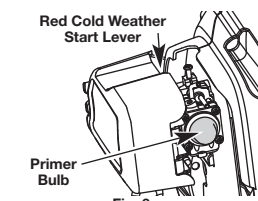
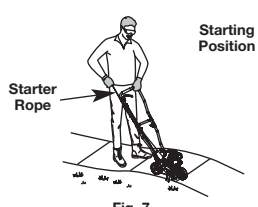

Fig. 6
Fig. 7
**WARNING:** Avoid accidental starting. Make sure to be in the starting position when pulling the starter rope (Fig. 7). To avoid serious injury, the operator and unit must be in a stable position while starting.
**IF COLD...** In cold weather conditions (below 40°F), push the red cold weather start lever (Fig. 6) down to the closed position and continue to step 3. **DO NOT** push this lever down if the temperature is above 40°F.
4. Stand in the starting position (Fig. 7).
**IF COLD...** In cold weather conditions (below 40°F), pull the red cold weather start lever back up to the open position after the unit starts (Fig. 6).
3. Fully press and release the primer bulb 10 times, slowly. Some amount of fuel should be visible in the primer bulb (Fig. 6). If fuel cannot be seen in the bulb, press and release the bulb until fuel is visible.
5. Press and hold the ON (I) button of the Electric Starter or Power Start Bit™ equipped drill in intervals no longer than 2 seconds each until the unit starts.
8. Stand in the starting position (Fig. 7). Tip the unit back so the blade does not touch the ground.